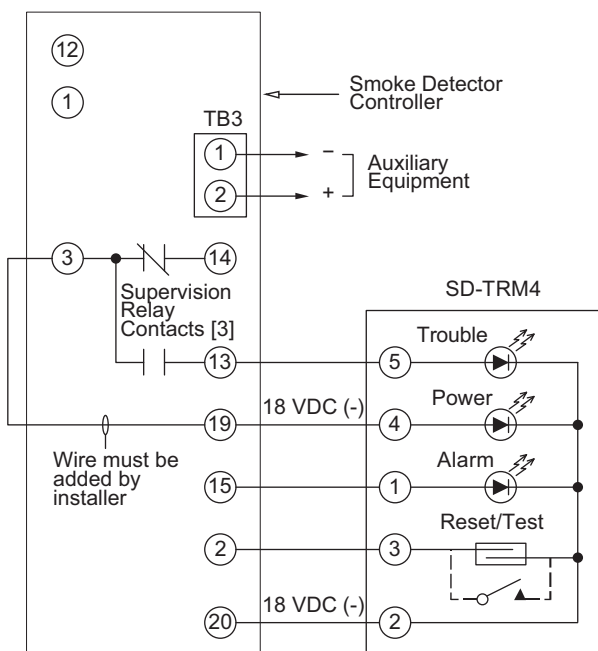

Fig. 49 — Remote Test/Reset Station Connections
The test/reset station dirty sensor test checks the test/reset station's ability to initiate a sensor dirty test and indicate the results. It must be wired to the controller as shown in Fig. 49 and configured to operate the controller's supervision relay. For more information, see "Dirty Sensor Test" on page 34.
1. Verify that the remote test/station is wired as shown in Fig. 49. Repair or replace loose or missing wiring.